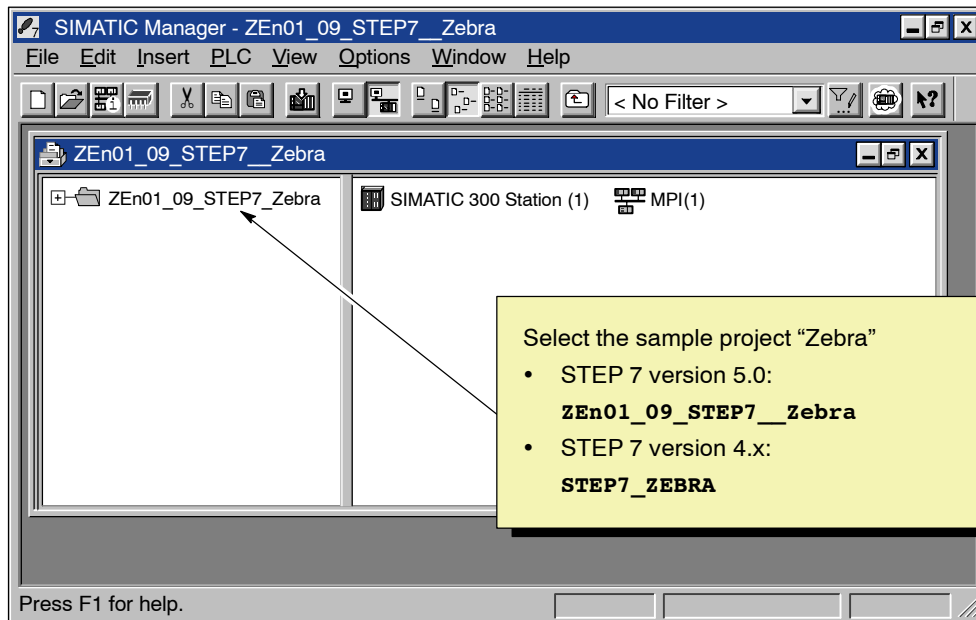

Figure 3-4 Sample STEP 7 Program (ZEn01_09_STEP7__Zebra)
STEP 7 opens the sample project. See Figure 3-4.